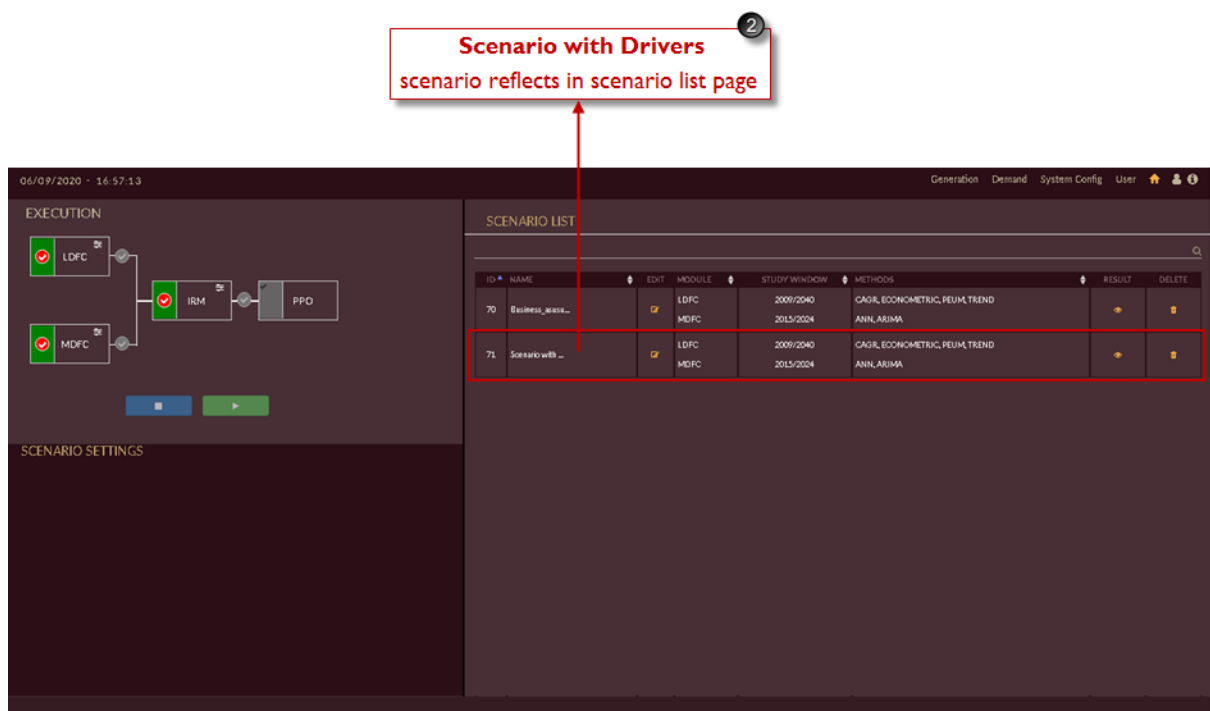

Figure 98. Scenario with Drivers in Scenario List
2. Once scenario with drivers is created and saved, it will reflect in scenario list page as shown in Figure 98.